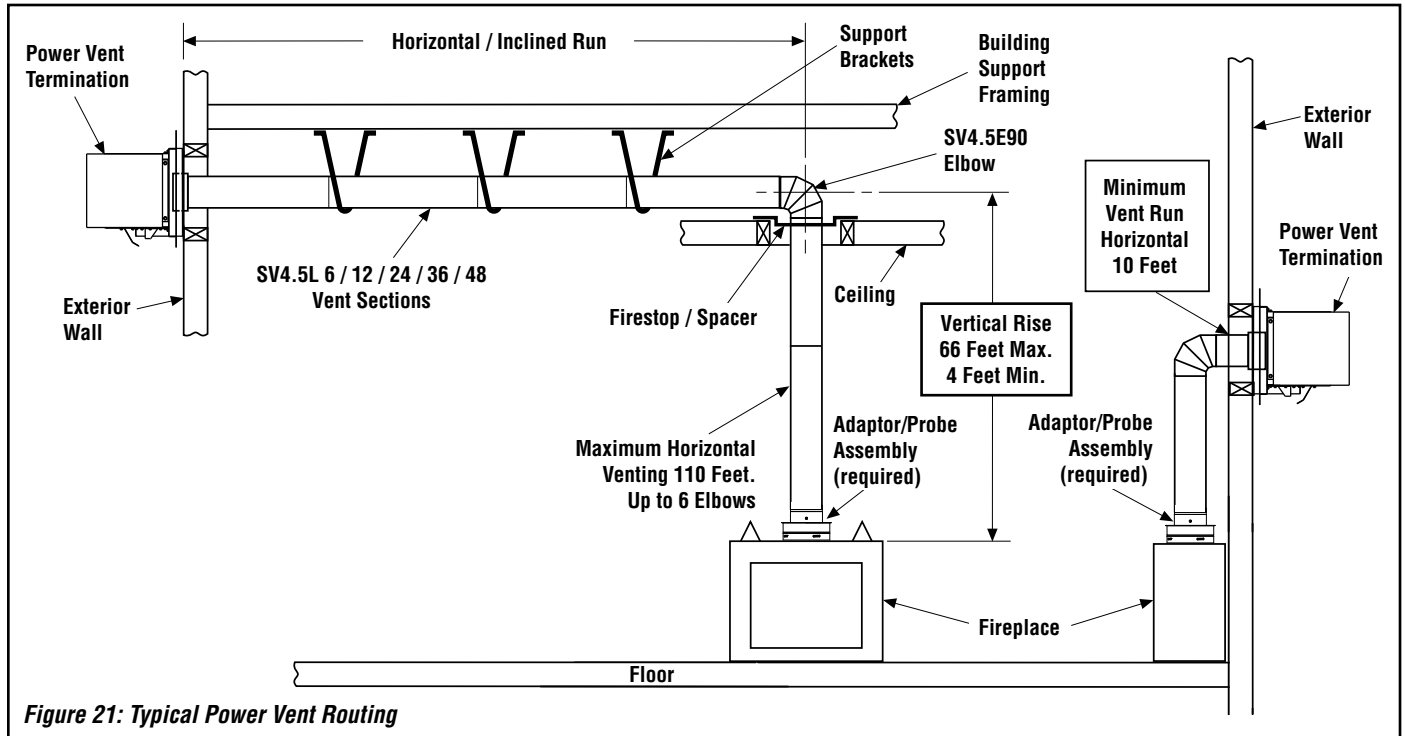

Figure 21: Typical Power Vent Routing
C. Attach vent components to each other. Other vent sections may be added to the previously installed section in accordance with the requirements shown in *Figures 21 and 22 on Page 17*.
G. Continue installation of horizontal/inclined sections. Continue with the installation of the straight vent sections in horizontal/inclined run as described in **Step C**. Install support straps every 3' (914 mm) along horizontal/inclined vent runs using conventional plumber's tape (*see Page 17, Figure 21*).
See **Figures 21 and 22 on Page 17** illustrating the various horizontal venting configurations that are possible for use with these appliances. The table in **Figure 22 on Page 17** shows each system's minimum and maximum vertical and horizontal length values that can be used to design and install the vent components in a variety of applications.
See **Figure 21 on Page 17**.